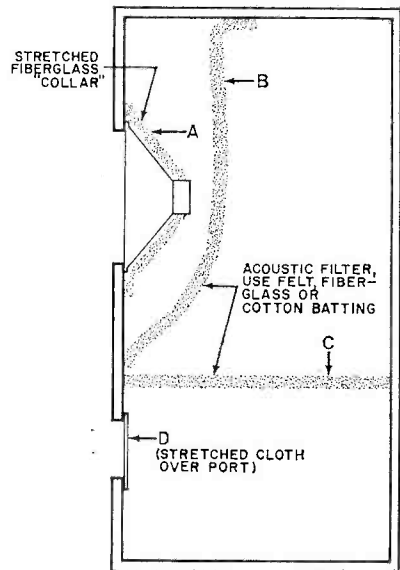

Fig. 4. Acoustic filter material may be added to the enclosure to provide sufficient damping. Top, bottom, and at least one side should be padded.
**Other Problems.** There are some factors that have more effect upon sound quality than minor errors in tuning. The amplitude of the upper impedance peak often presents a danger zone, even in a well tuned enclosure. Increased output there may produce boom unless sufficient damping material (felt, fiberglass or cotton batting) is added to the interior. The most efficient use of such material is to suspend it in the air behind the speaker (see B, C, Fig. 4), or stretch it tightly over the speaker (A, Fig. 4). If necessary, damping may also be applied at the port by stretching a layer of cloth across the opening (D, Fig. 4). A final check of damping may be made by connecting a 1.5 V flashlight battery to the speaker terminals via a s.p.s.t. switch. When the "bong" of the undamped enclosure changes to a "click" at the "make" or "break" of the circuit, the system is damped. Padding also reduces the reflection of mid-range frequencies bouncing around inside the cabinet back to the cone.